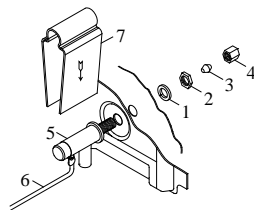

Fig. 7
- **Install float valve and fill pan.** Refer to Fig. 7. Remove items 1, 2, 3, and 4. Insert float body (5) through hole in media shield and back post panel as shown. Install washer (1) and nut (2). Tighten to keep float from turning. Place nut (4) and ferrule (3) on water supply line. Connect to float fitting and tighten until water tight. Bend rod (6) to adjust float until water level is about 1 inch below the top of the overflow pipe. Slide float shield (7) over float body (5) until it snaps into place.